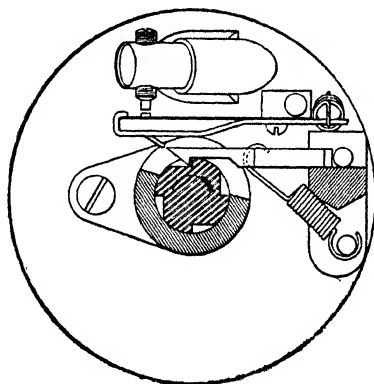

Fig. 44. Atwater-Kent Interrupter
*Atwater-Kent Interrupter.* The difficulties with roller contact led to the adoption of a totally different principle embodied in the Atwater-Kent interrupter, Fig. 44. This affords an exceedingly brief contact with an abruptness of the making and breaking of the circuit that is not secured with any other device.